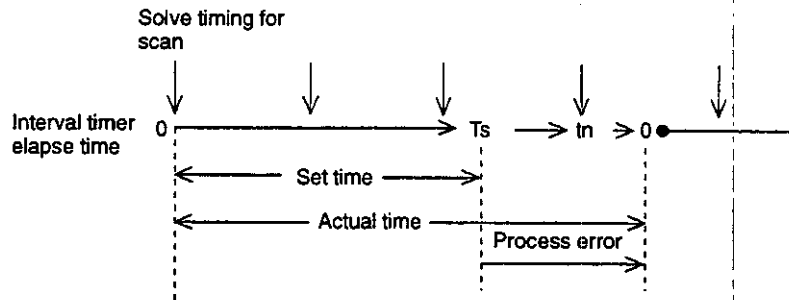

Figure 3.6 Interval Timer
- d) The timing of the interval timer is independent of scanning, but timing to solve the PID circuit is affected by the scan time. Rather than the interval timer value (actual time), the value set in the function block (sampling cycle) is used as T_s in equation (c) of 2.2.2. Consequently, the larger the sampling cycle is in relation to scan time, the better the accuracy of PID calculations. (Figure 3.6)